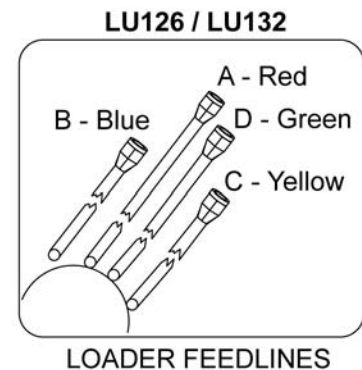

Figure 42. Loader Feedline to Tractor Remote Coupler Connections
2. Connect loader feedline hoses to tractor remote control couplers. See Figure 42.